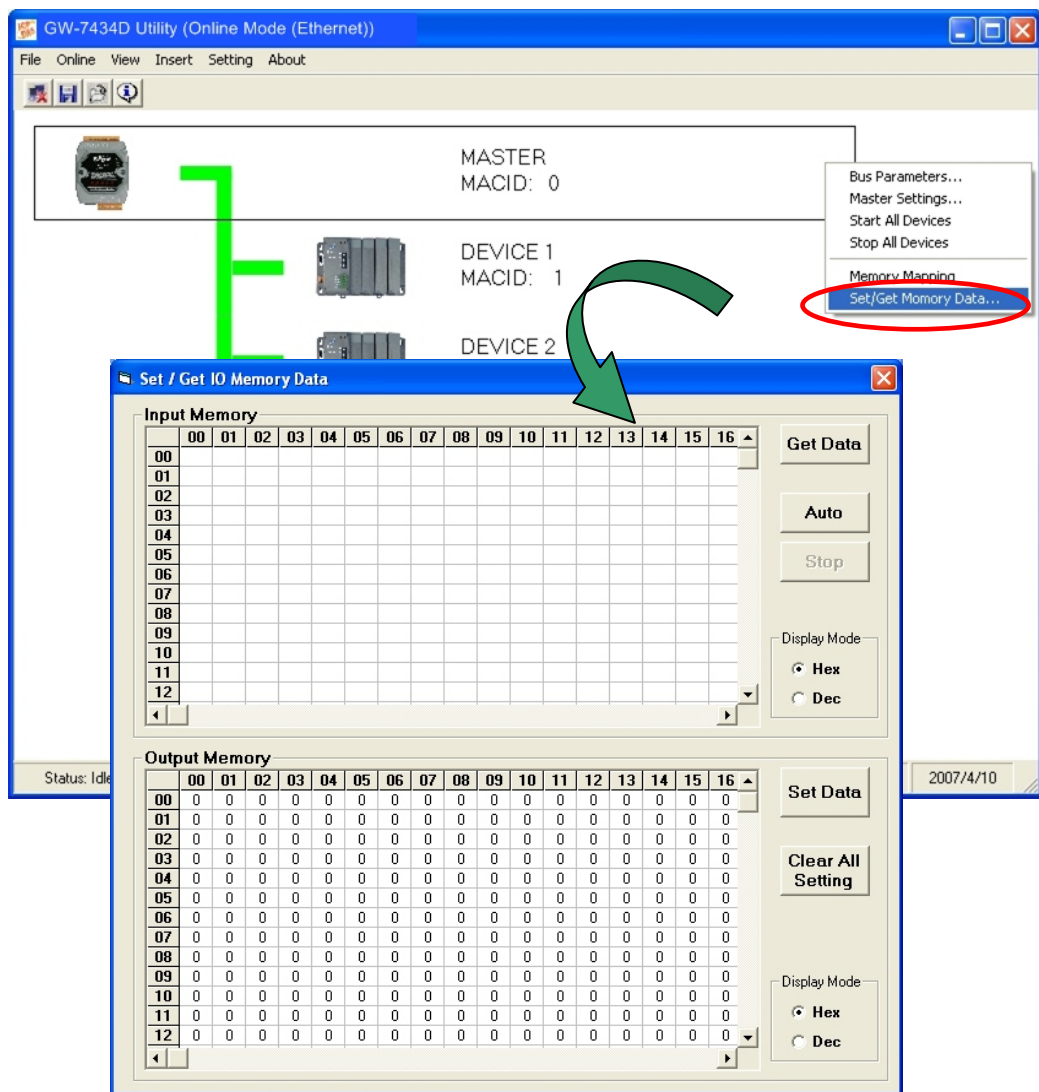

Figure 5-32: Set/Get IO Memory Data
2. Select the "Setting" item on the menu bar, or click the mouse right-button on the master frame, then click the "Set/Get Memory Data..." item. Then the "Set / Get IO Memory Data" window will be pop-up. As shown in figure 5-32.